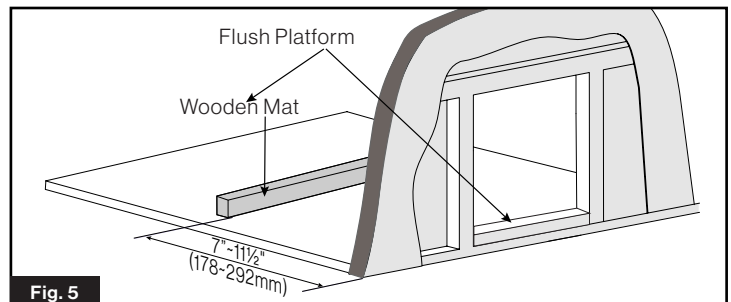
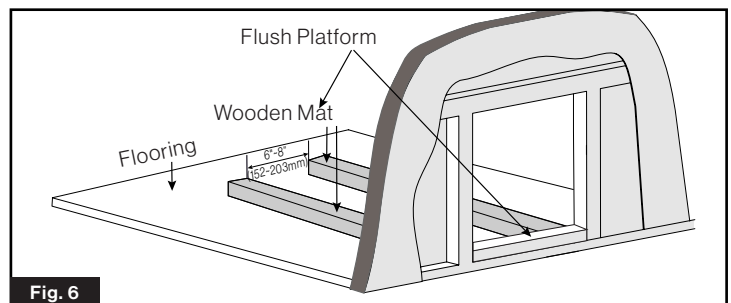

Fig. 5
Fig. 6
- If necessary, create a platform to support the water heater. Fig. 5 and Fig. 6 are some common solutions. Ensure the platform is level front to back, and side to side after securing to the RV.